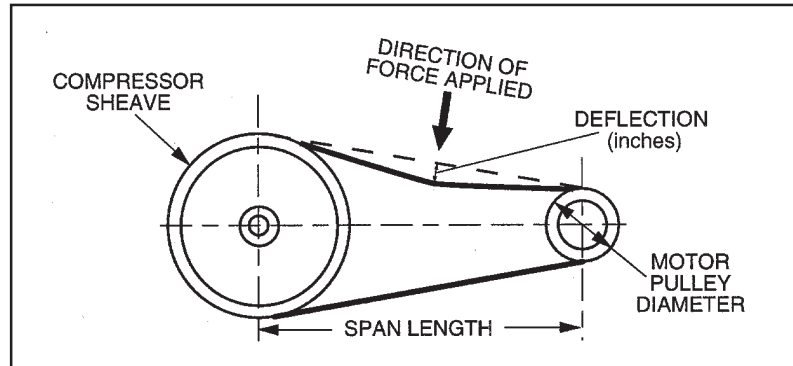
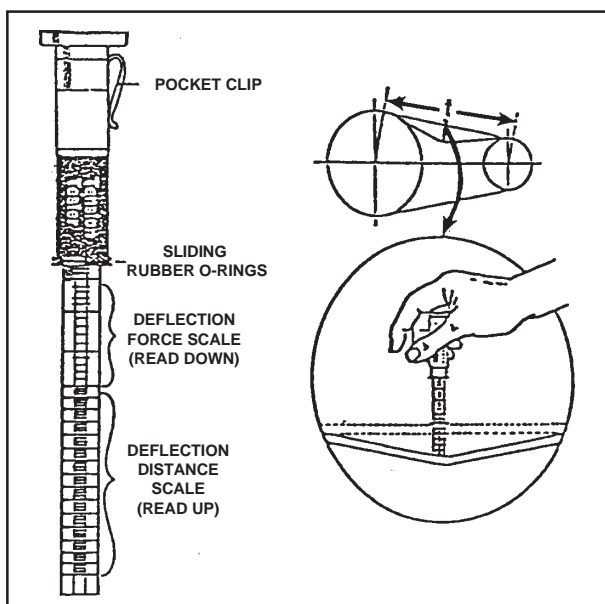

Fig. 5-1
Fig. 5-2 Belt Tension Gauge Pix 1153
Step 1) Measure the span length of the drive. (Refer to **Fig. 5-1, Setting Belt Tension.**)
Step 4) At the center of the span, perpendicular to the belt, apply pressure to the outer surface of the belt with a belt tension gauge (refer to **Fig. 5-2, Belt Tension Gauge**). Force the belt to the predetermined deflection (refer to **Step 2** above). Record the reading on the belt tension gauge and compare to the chart following **Fig 5-1**. The deflection force reading should be within the minimum and maximum values shown. Adjust belt(s) accordingly. New belts should be initially tensioned to the maximum value plus 33% (multiply by 1.33).